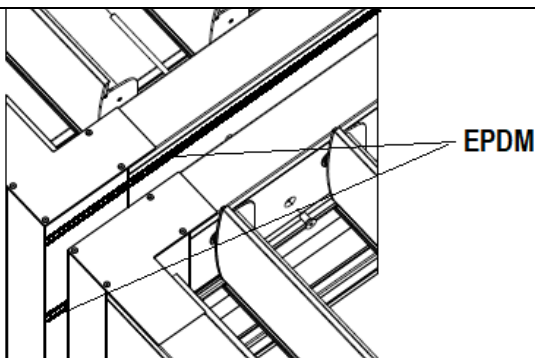

Figure 39
1. After degreasing the surface, stick two strips of EPDM tape on the beam of the integrated pergola frame from the side of the added second frame. Stripes at the top and bottom of the beam. The edge of the upper strip is recommended to be glued below the revision (fig. 39) - for later access to the inside of the beam.